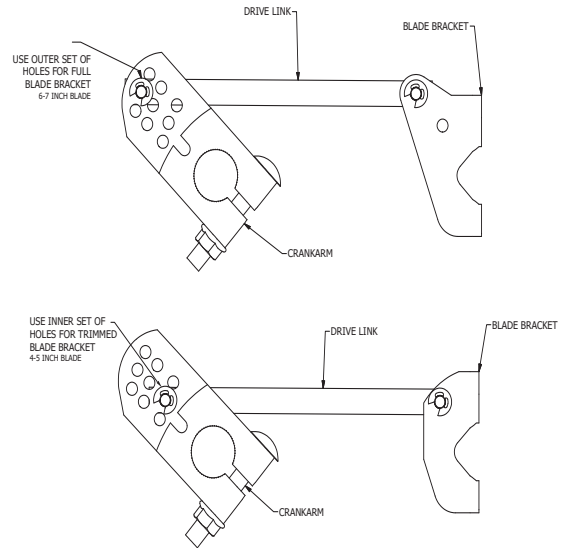

Figure 2: Drive Link Placement on Crankarm
5. Attach the drive link to the blade bracket using e-clip. Adjust link from blade bracket into pre-drilled hole on crankarm. Crankarm bolt may need to be loosened. Blade size will determine proper hole location. See Figure 2 for drive link placement.
Blade Bracket: Use the outside hole. See Figure 2.